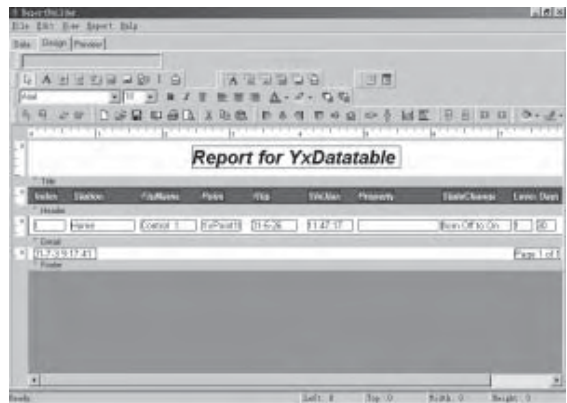

Fig. 7-7 Design the Report
(4) Design the Report: Select and click the button 'Design' and it will enter the diagram of designing report as in Fig. 7-7. And then the user can design various reports according to the requirement.